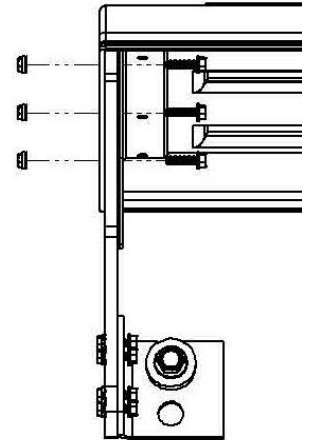

Figure 6
E. Install center bracket as close to the end of the fender as possible (Figure 6).